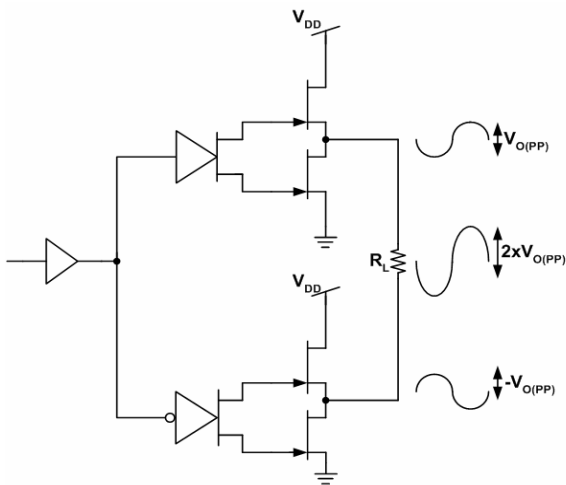
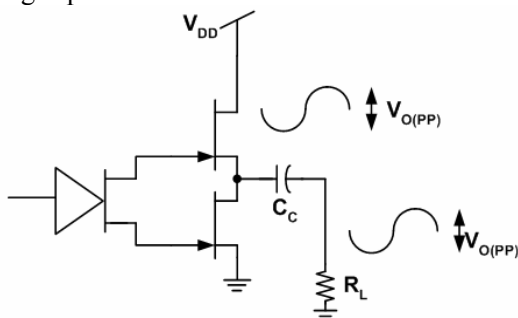

Figure 56. Bridge-Tied Load Configuration
Figure 57. Single-Ended Configuration and Frequency Response
Figure 56 show a linear audio power amplifier (APA) in a BTL configuration. The EUA 5202 BTL amplifier consists of two linear amplifiers driving both ends of the load. There are several potential benefits to this differential drive configuration, but initially consider power to the load. The differential drive to the speaker means that as one side is slewing up, the other side is slewing down, and vice versa. This in effect doubles the voltage swing on the load as compared to a ground referenced load. Plugging 2 × VO(PP) into the power equation, where voltage is squared, yields 4 × the output power from the same supply rail and load impedance (see equation 7 )
In a typical computer sound channel operating at 5V, bridging raises the power into an 8-Ω speaker from a single-ended (SE, ground reference) limit of 250 mW to 1W. In sound power that is a 6-dB improvement—which is loudness that can be heard. In addition to increased power there are frequency response concerns. Consider the single-supply SE configuration shown in Figure 57. A coupling capacitor is required to block the dc offset voltage from reaching the load. These capacitors can be quite large (approximately 33μF to 1000μF) so they tend to be expensive, heavy, occupy valuable PCB area, and have the additional drawback of limiting low-frequency performance of the system. This frequency limiting effect is due to the high pass filter network created with the speaker impedance and the coupling capacitance and is calculated with equation 8.
In SE mode (see Figure56 and Figure57), the load is driven from the primary amplifier output for each channel (OUT+, terminals 22 and 3).